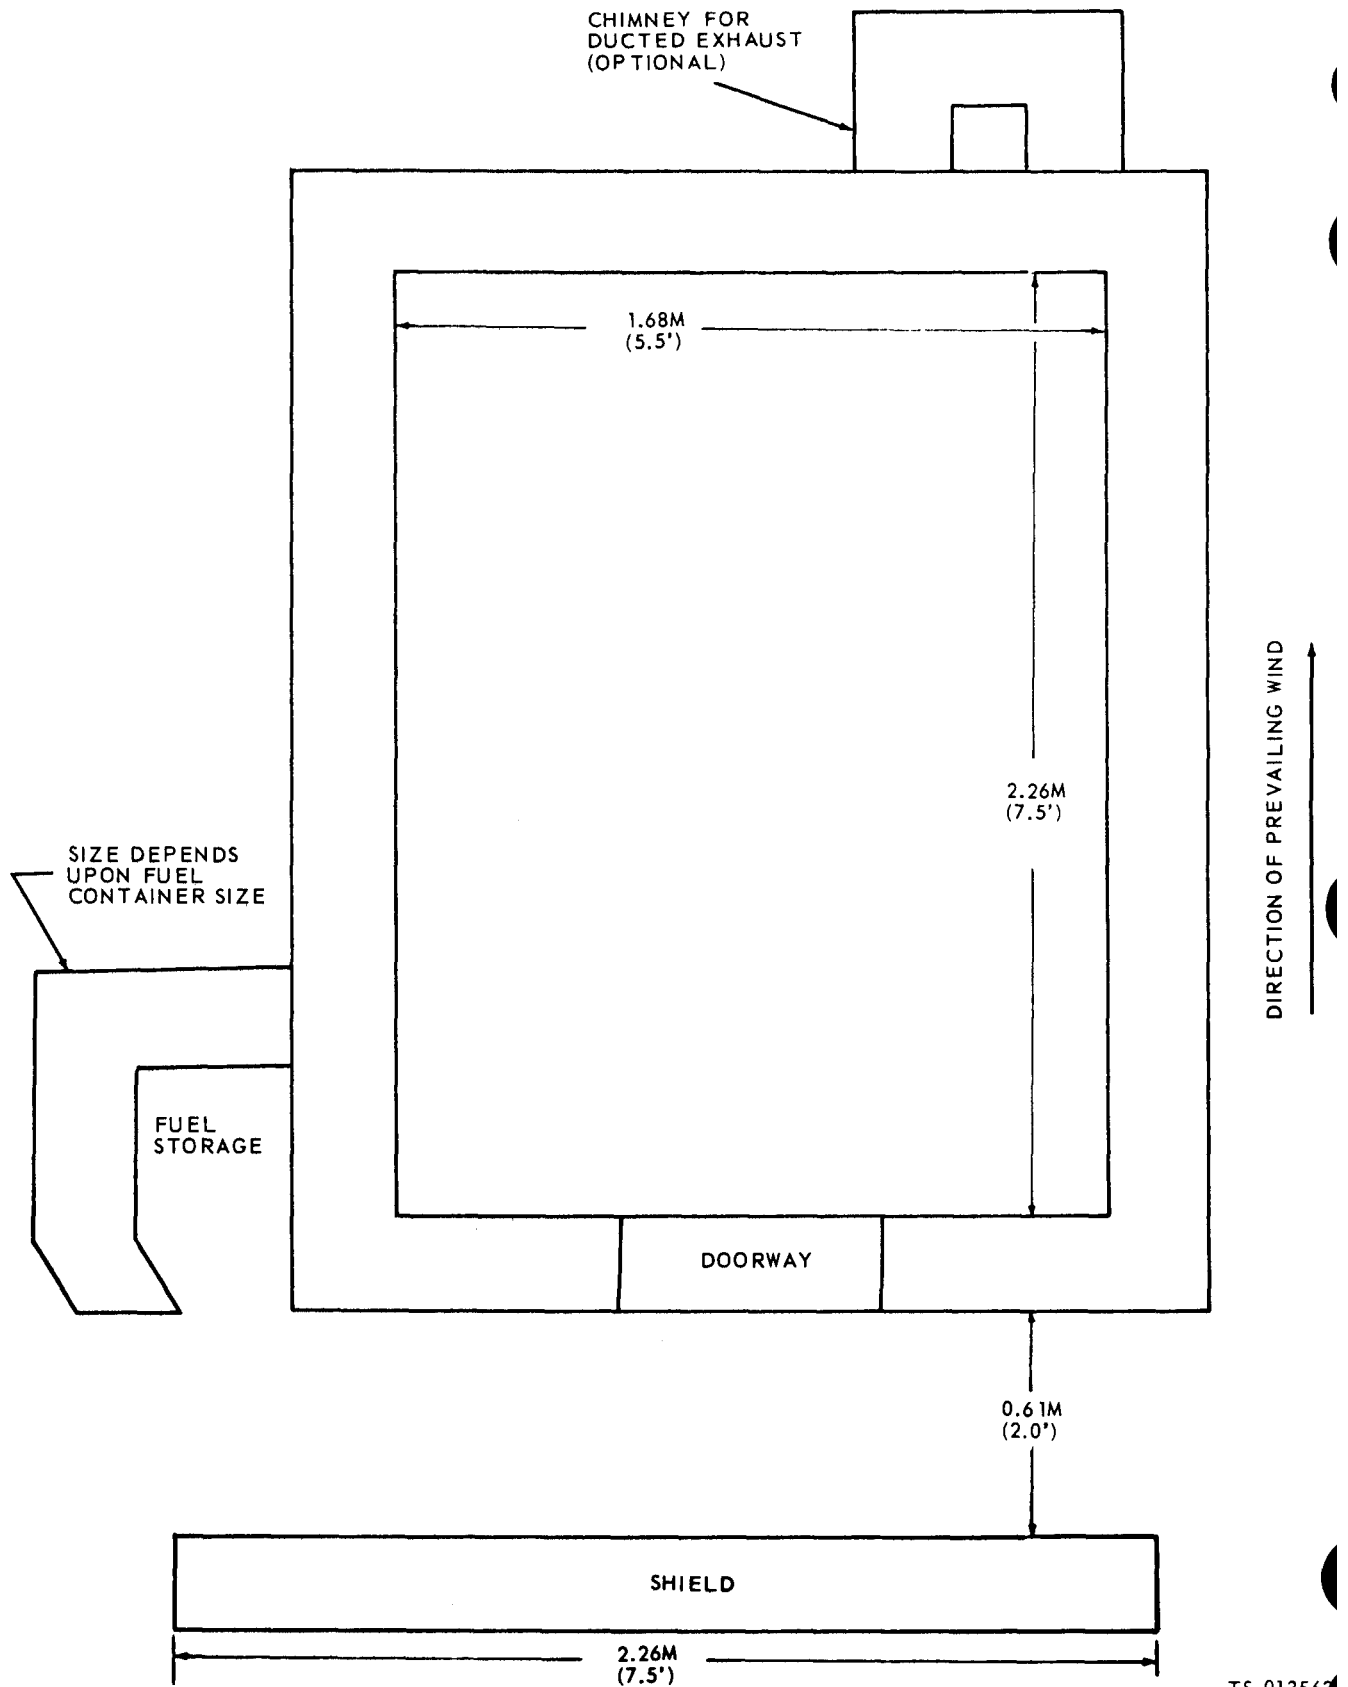
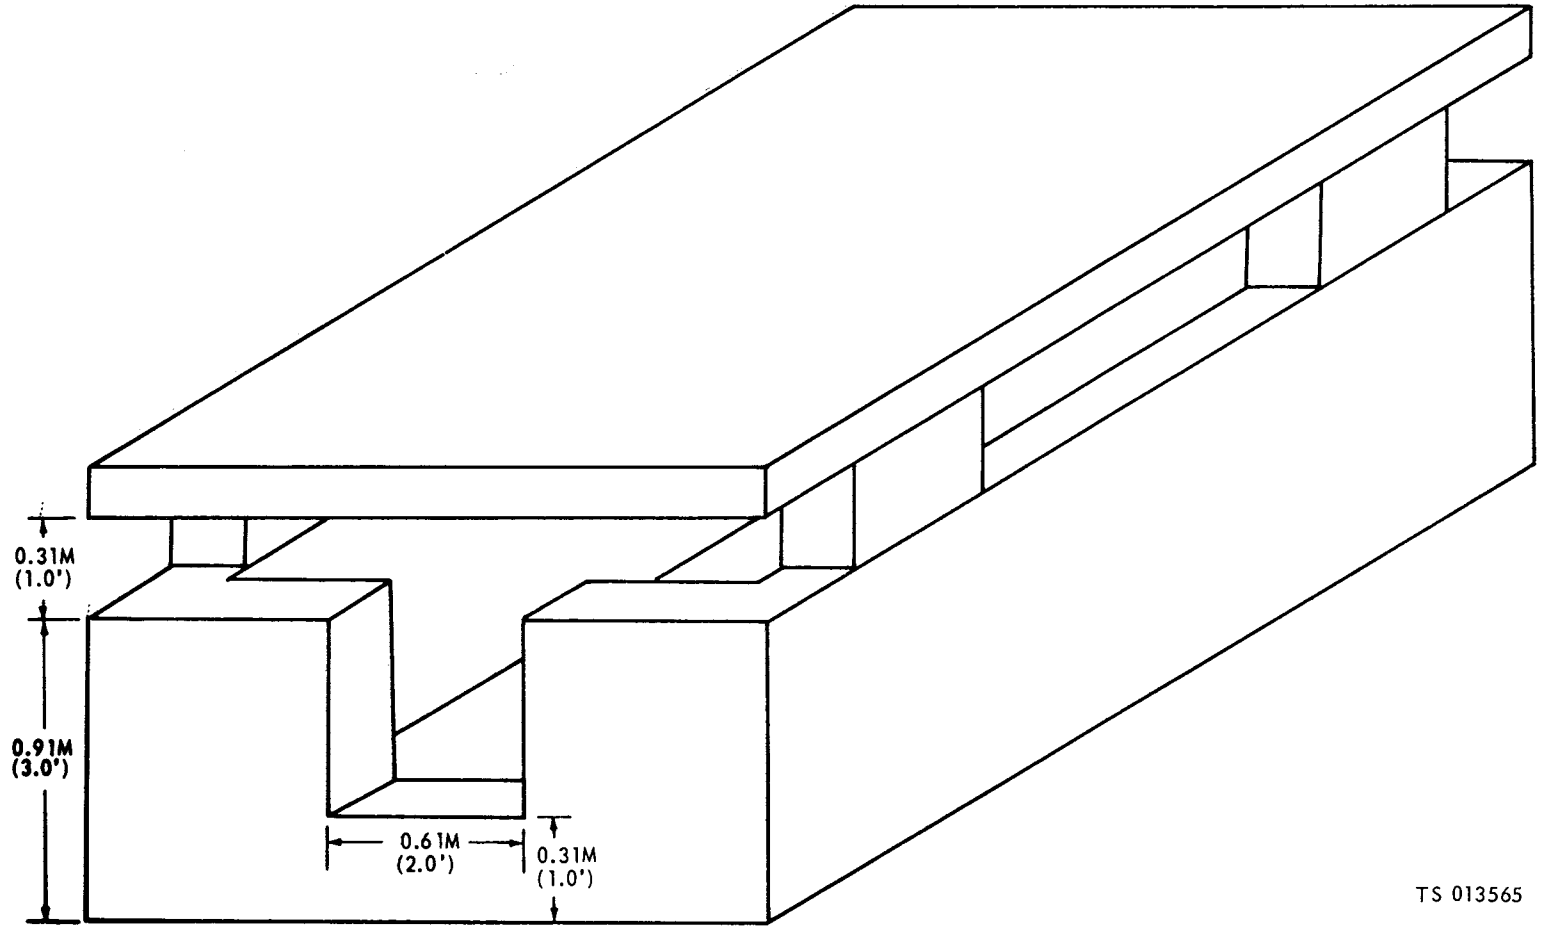

Figure 4-1 Revetment, top plan view.
Figure 4-3. Revetment, isometric plan view.
b. *Dimensions.* The minimum allowable inside dimensions are shown in figures 4-1 and 4-2. The entrance to the revetment is shown in figure 4-3. These minimum dimensions are based solely on consideration of engine cooling and ventilation allowing a minimum practical amount of space for service and maintenance.
The materials used in the roof construction consist of two pieces of lumber (4 inches by inches) or logs (4 inches in diameter) about 10 feet (3.1 meters) long and the necessary cross pieces of lumber, logs, or steel planking to cover the entire roof as shown in figure 4-6. These cross pieces should be about 8 feet (2.44 meters) long. If the above materials are not readily available, any available material of a like nature may be used. The thickness of the roof (figs. 4-3 and 4-5) will depend upon the amount and type of protection desired. Caution should be taken when adding protection to the roof to insure that the roof is supported properly to carry the additional weight.
f. *Miscellaneous Construction.* A compartment should be constructed for fuel storage outside of the revetment as shown in figure 4-1. The size of the fuel storage area will depend upon the size of the fuel container being used. Since air temperatures within the revetment will build up considerably above the outside ambient when the generator set is operating, always locate the fuel supply outside the revetment to minimize safety hazards associated with gasoline at high temperatures. For the same reason, it is recommended that the integral fuel tanks, with which some generator sets are equipped, not be used. The exhaust from the generator set is to be ducted out of the revetment. The installation should be similar to that shown in figure 4-7. If flexible pipe is not available to use for an exhaust extension, a piece of exhaust pipe or any other similar material may be utilized. The point at which the exhaust discharges goes through the revetment wall depends entirely upon the equipment that is available. The exhaust may be discharged into an external exhaust chimney constructed as shown in figure 4-1. This chimney will aid in ducting the exhaust gases away from the revetment and will reduce the noise level. A revetment doorway shield must be constructed as shown in figures 4-1, 4-2, and 4-6. This shield is a wall 3 feet (0.91 meters) high and 7.5 feet (2.26 meters) long, constructed in a manner similar to the revetment walls to prevent direct entrance of projectiles or fragments through the doorway into the revetment.
g. *Alignment Instructions.* When constructing the revetment, the orientation of the revetment will be such that its entrance is facing into the direction of the prevailing wind (fig. 4-1). Each generator set will be located within the revetment so that its long axis is parallel to the long axis of the revetment and is centered within the revet-